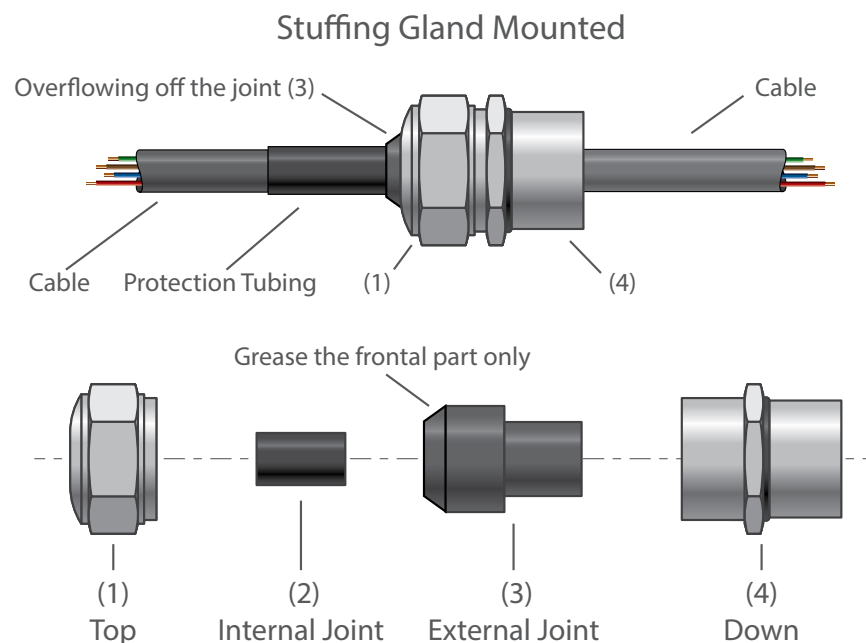

Fig.2-7 Stuffing gland (Overview and separated)
3. Pass the cables into the stuffing gland by proceeding as follows (*see Fig.2-7*):
- a. Unscrew element (1) Counterclockwise. Element (4) must not be removed from the housing.
- b. Remove joints (2) and (3) from element (1). These two elements allow the stuffing gland to adapt to various diameters of cable. Element (2) can be removed from element (3) by simply pushing it outwards.
- c. Pass the cables through elements (1), (2) (if used), (3) and (4).
- d. Reassemble the elements of the stuffing gland and, before replacing element (1), lubricate the seal (3) with silicone as indicated (*see Fig.2-7*). Tighten element (1) so that it projects beyond joints (2) and/or (3) to provide the degree of seal required.
3. Pass the cables into the stuffing gland by proceeding as follows (see Fig.2-7):
- c. Pass the cables through elements (1), (2) (if used), (3).
- f. Reassemble the elements of the stuffing gland (take care that the shield remains in place) and, before replacing element (1), lubricate the seal (3) with silicone as indicated (see Fig.2-7). Tighten element (1) so that it projects beyond joints (2) and/or (3) to provide the degree of seal required.